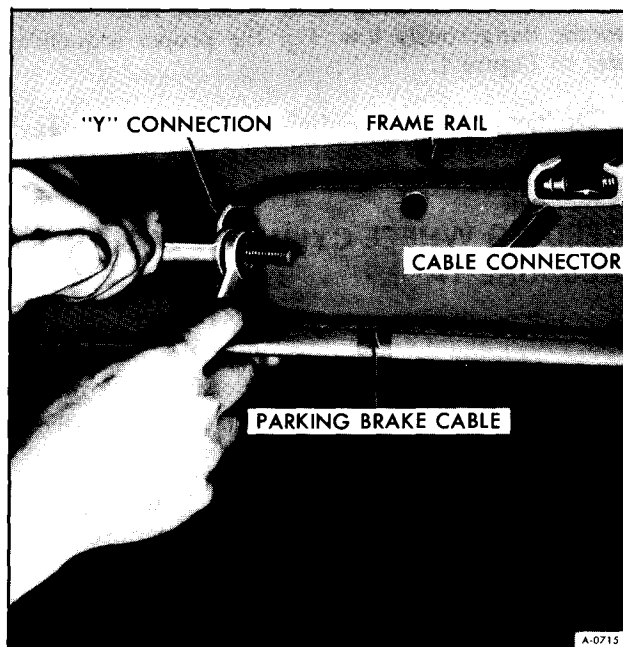

Figure 5—Loosening Intermediate Adjusting Nuts
4. Loosen lock nut at intermediate cable equalizer as shown in Figure 5.